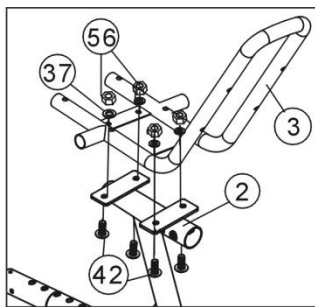

Figure 5
Attach the Seat cushion frame (3) to the Seat cushion adjuster (2) with four M8×20 Bolts (42), 4 pcs of Φ8 Flat washers (37), and 4 pcs of M8 Nylon nuts (56). (Refer figure 5)